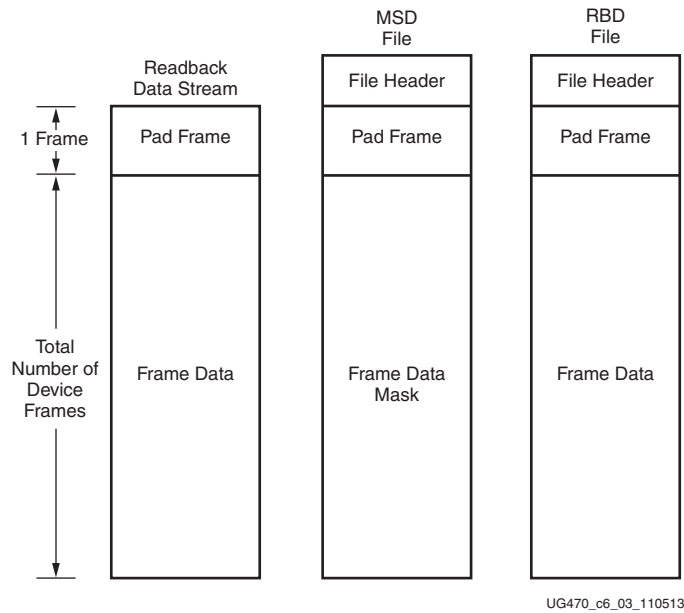

Figure 6-3: Comparing Readback Data Using the MSD and RBD Files
1. Compare readback data to the RBD *golden* readback file. Mask by using the MSD file (see Figure 6-3).